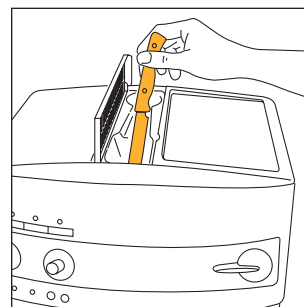

Fig. 20
**NOTE 5:** If you add more than one measure of pre-ground coffee and the funnel blocks, use a knife to push the coffee down (Fig. 20) and then remove and clean the infuser and the machine, as described in paragraph 10.2 "Cleaning the infuser".